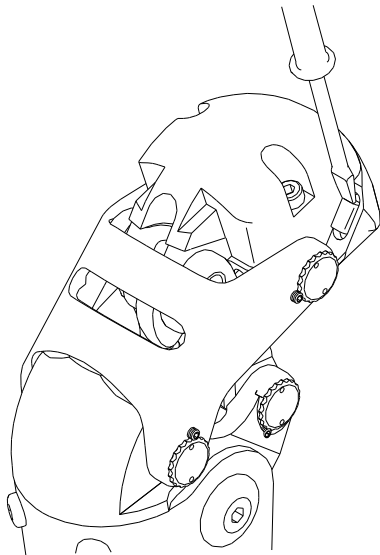

Fig.11
**1. Extension stopper rubber (See Fig.11.)**